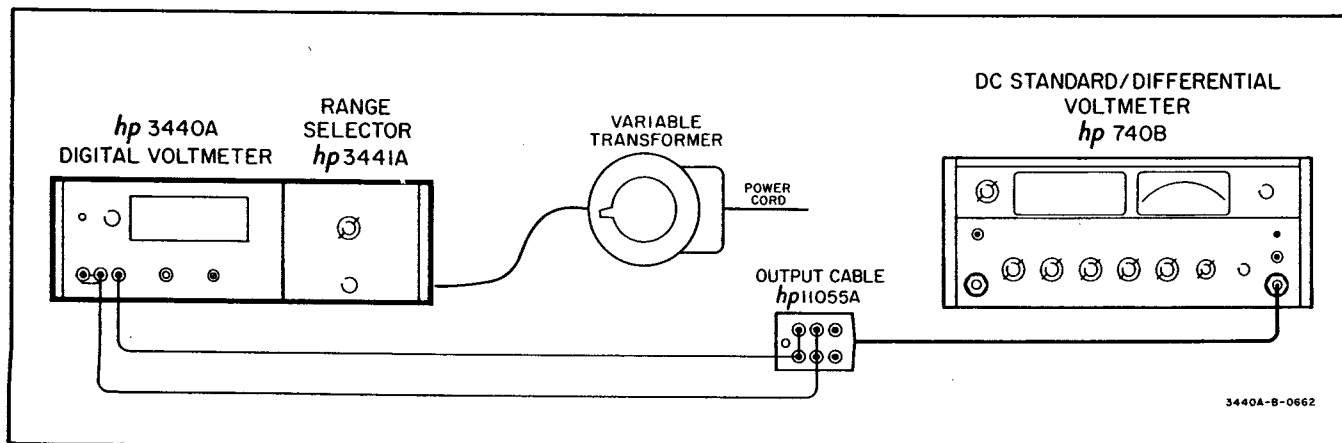

Figure 5-1. Calibration
- a. Connect the Model 3440A to a variable line transformer as shown in Figure 5-1.
- h. Connect a dc standard as shown in Figure 5-1, and set the dc standard output to 1.000 volts. The 3440A indication should be between 0.998 and 1.002.